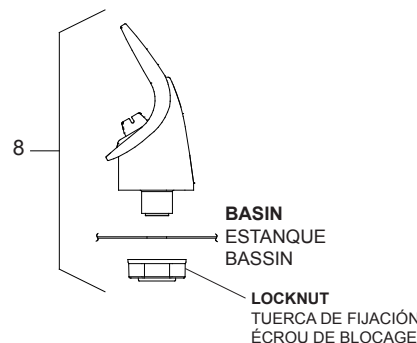

FIG. 5
**SEE FIG.5**
VEA LA FIG.5
VOIR FIG.5